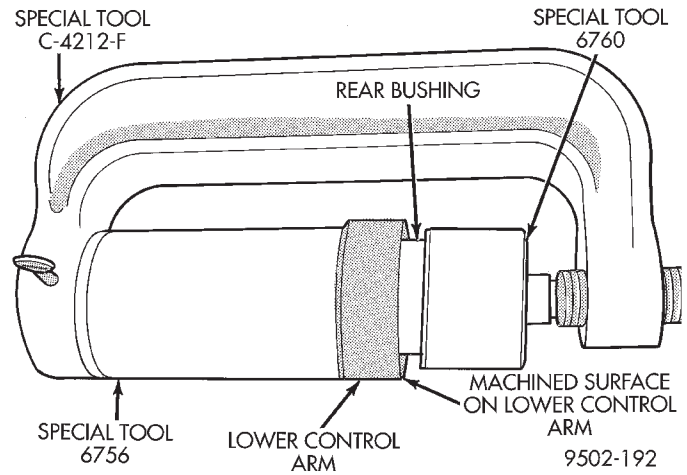

Fig. 103 Installing Rear Bushing In Lower Control Arm
(2) Mount Bushing Installer, Special Tool 6760 on screw portion of Remover/Installer Special Tool C-4212-F (Fig. 103).
(3) Install Special Tools assembled for installation of rear isolator bushing into lower control arm on the lower control arm. Be sure Special Tool 6756 is square on lower control arm and Special Tool 6760 is positioned correctly on isolator bushing (Fig. 103).
(4) Tighten screw on Remover/Installer Special Tool C-4212-F pressing rear bushing into lower control arm. Continue pressing rear bushing into lower control arm until bushing is sitting flush on the machined surface (Fig. 103) of the lower control arm. This will correctly position rear bushing in lower control arm.
(5) Install lower control arm assembly back on vehicle. See Lower Control Arm Installation in this